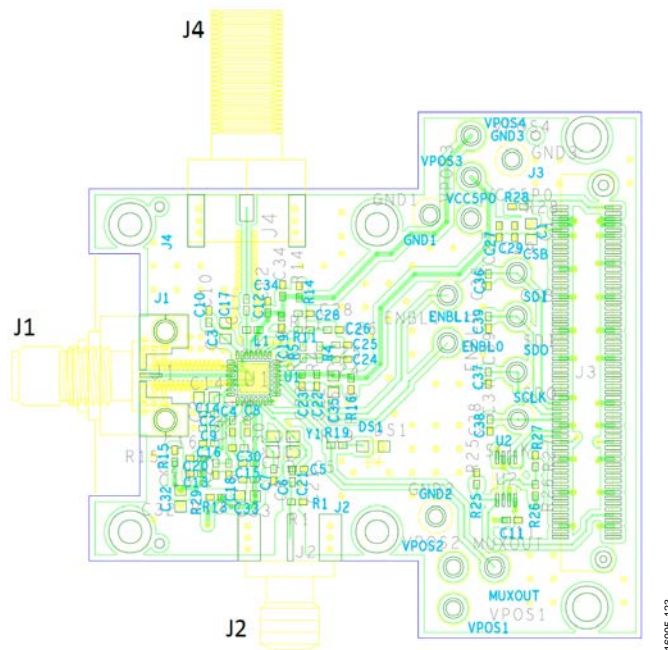
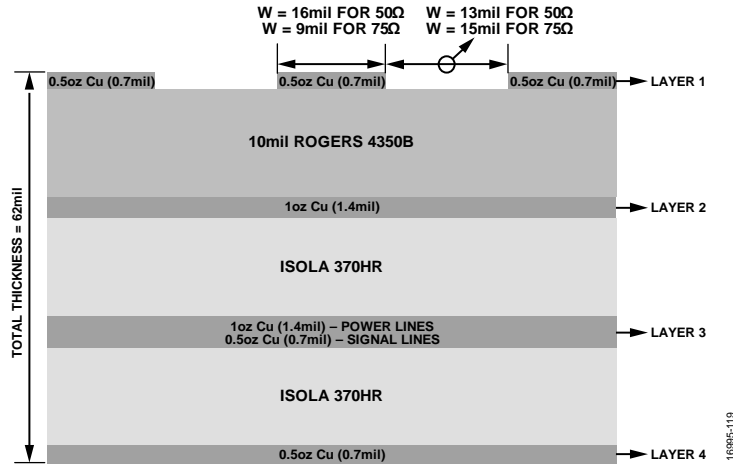

Figure 126. ADMV4420-EVALZ Evaluation Board Layout, Top View (Layer 1)
Figure 127. ADMV4420-EVALZ PCB, Cross Sectional View
The ADMV4420-EVALZ evaluation board can be used to evaluate the performance of the ADMV4420. The top and cross sectional layout views of the ADMV4420-EVALZ evaluation board are shown in Figure 126 and Figure 127, respectively. The RF transmission lines were designed using a coplanar waveguide (CPWG) model with a line width (W) of 16 mil and 13 mil of ground spacing for a characteristic impedance of  $50\Omega$  for the RF input (RFIN) and the external reference input (REF/XTAL1). The line width and ground spacing for the IF output (IFOUT) are 9 mil and 15 mil, respectively. The PCB is made with Rogers 4350B dielectric material, which offers low loss performance, and isola 370HR dielectric material, which achieves the required thickness of the PCB.
Figure 126 shows the ADMV4420-EVALZ evaluation board with component placement. The decoupling capacitors on the LDO decoupling pin and power supply traces to minimize noise effects. The schematic and Pb-free reflow solder profile of the evaluation board are shown in and Figure 2 and Figure 132, respectively.